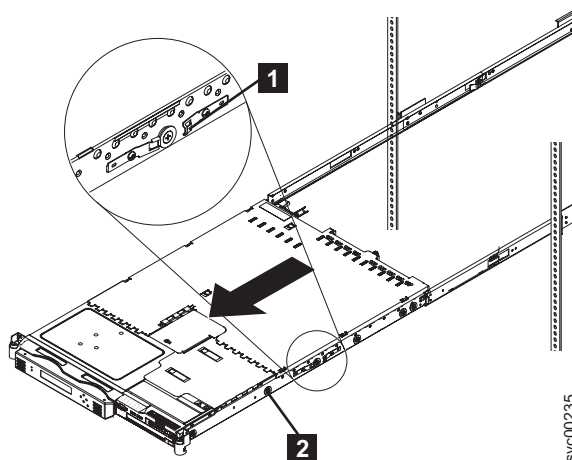

Figure 68. Removing the SAN Volume Controller 2145-8G4 from the rack
3. Position yourself to support the weight of the node when it is no longer held by the slides and then press the rear slide release latches (**1** in Figure 68) on both sides of the SAN Volume Controller 2145-8G4.